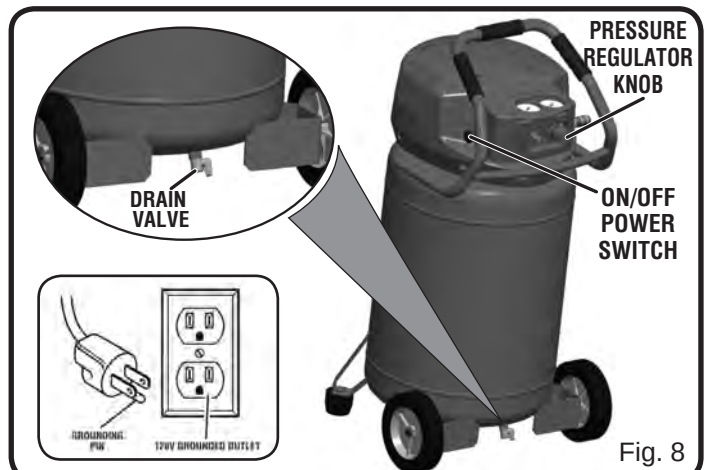

Fig. 8
See Figure 8 - 9.
- Ensure the tank drain valve is closed (see Fig. 8).
- Ensure the ON/OFF power switch is in the **OFF (O)** position and air compressor is unplugged (see Fig. 8).
- Ensure the pressure regulator knob is turned fully counterclockwise (see Fig. 8).